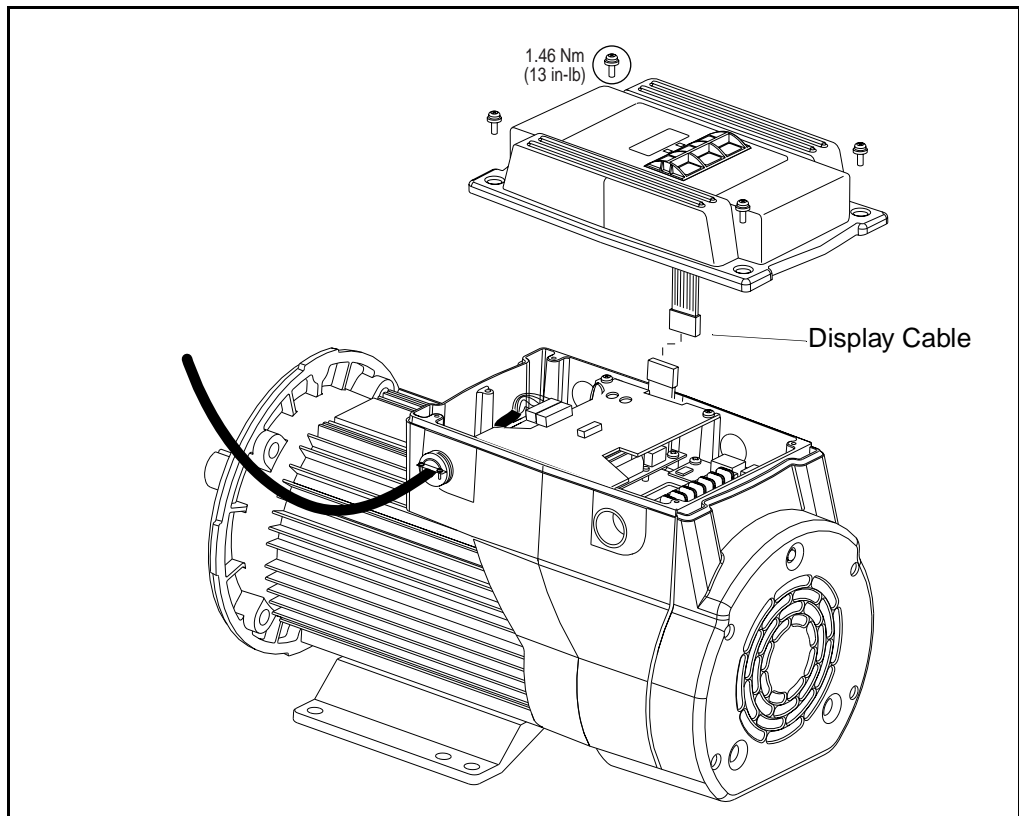

Figure 2.5 – Reinstalling the Cover
Step 6. Before reconnecting the cover (shown in figure 2.5), commission the VSM500 unit and connect it to the network (instructions in sections 2.5 and 2.6).
Step 4. Connect the DeviceNet cable to the VSM500 unit. Figure 2.5 shows an example.
Step 1. Connect the display cable and install the cover (see figure 2.5).